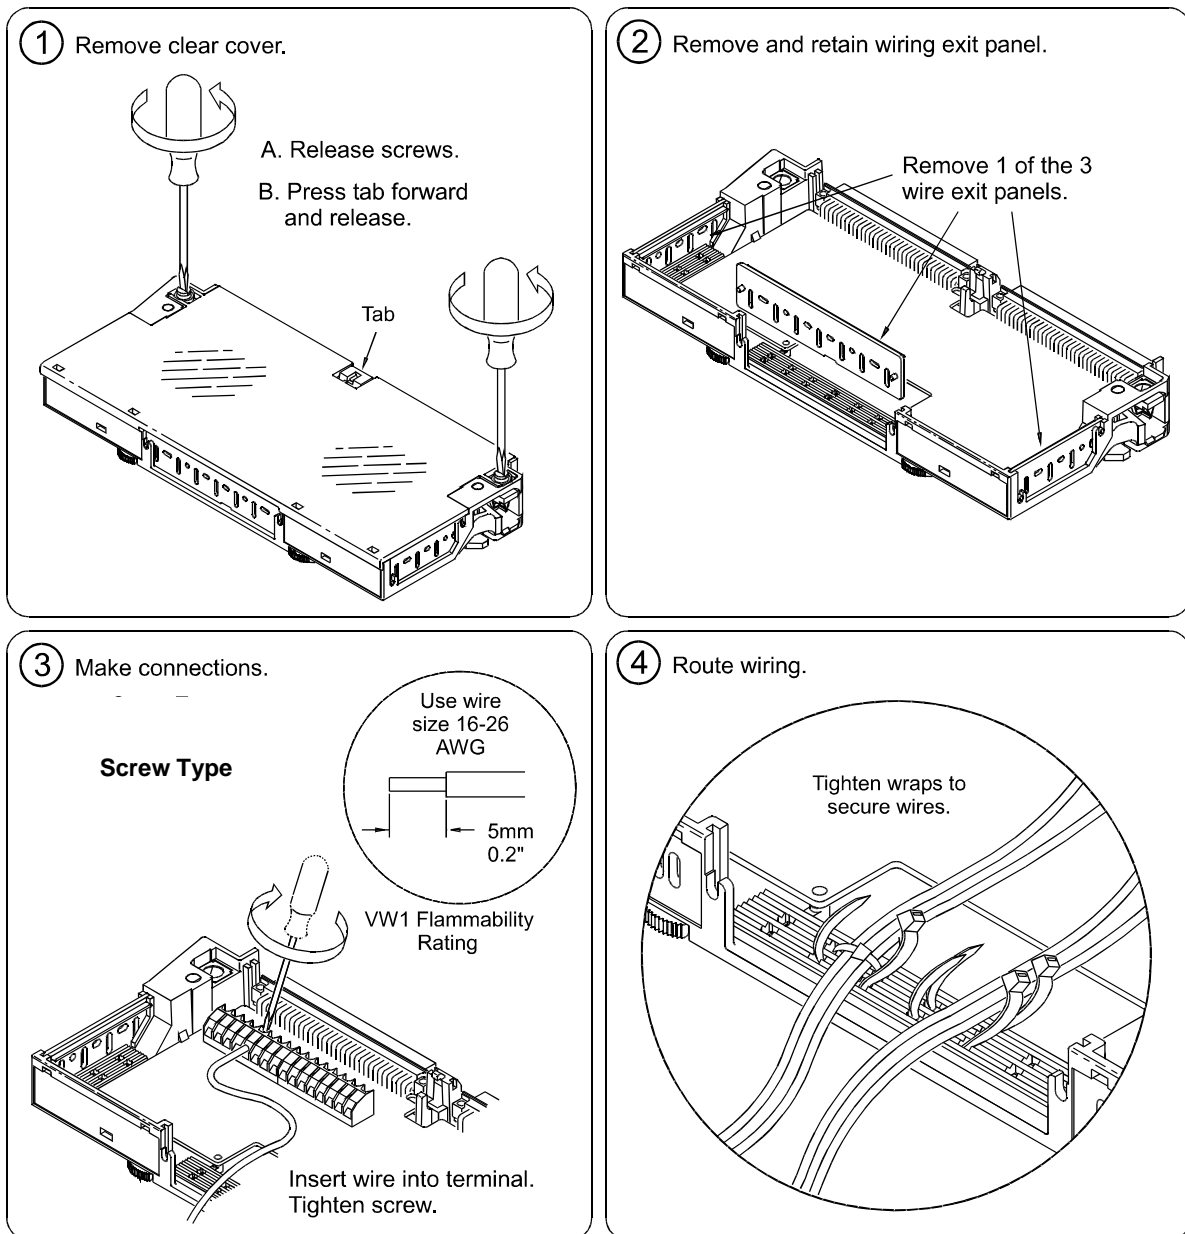

Figure 1-7. Wiring the Terminal Module
User wiring to the relay matrix switch modules are to the High (H) and Low (L) terminal connections. Figures 1-7 and 1-8 show the rudiments of the terminal module assembly. Expansion connectors allow for creating larger matrices (see later in this chapter).